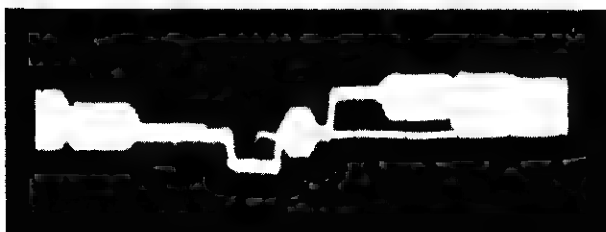

Fig. 25—Chroma Level
4. Adjust R3312 so that the p-p level of color reference burst is 1V p-p see Figs. 25 & 28